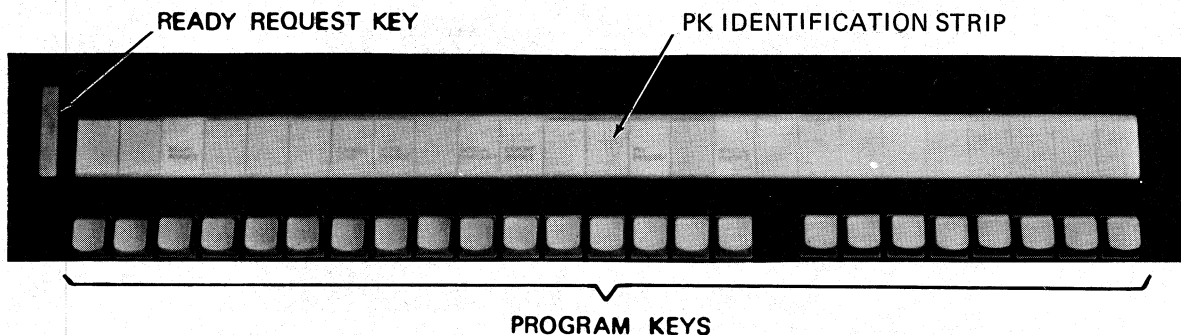

Figure 1-4. Program Keys
Twenty-four (24) Program Keys (PKs), shown in figure 1-4, are individually enabled for use by the user program, or by system software. The status of each PK is shown by a PK Indicator light immediately above the key. The Indicator lights are illuminated when the adjacent PK is enabled.
The Ready Request key is located above and to the left of the PKs (see figure 1-4). This key can be used to create specific "system software conditions",